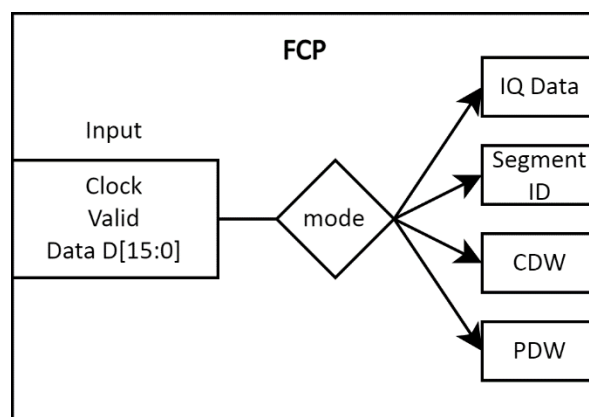

Figure 2: 18-bit FCP input being interpreted depending on the enabled FCP mode.
- The FCP interface can receive 18 bits, with one clock bit, one valid bit and 16 data bits, as depicted in *Figure 2*.